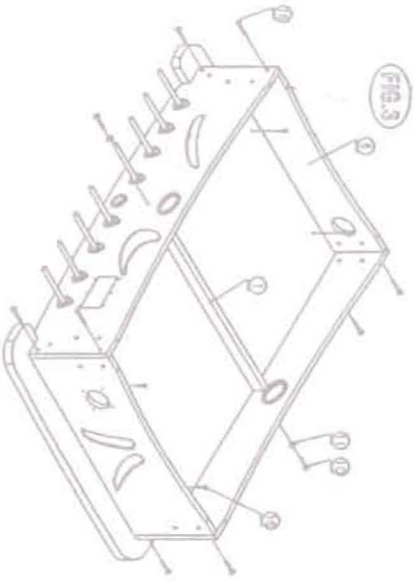

FIG. 4.
- 7) Attach the two four legs (#9) to the cabinet using four of Leg Bolts (#8) and four of Washers (#9) per Leg. See FIG. 4.
- 3) Connect the Goal Boxes (#25) with Ball Return Trays (#27) using two of Ripple Tubes (#29) as shown in FIG. 4.